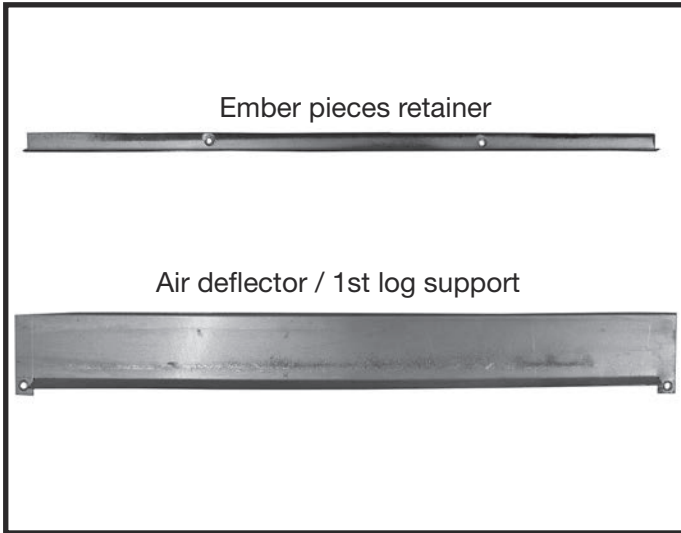
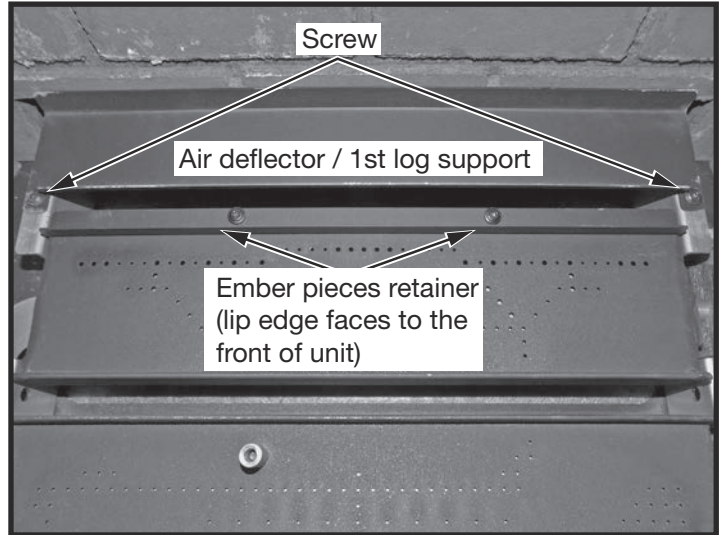

Figure 83: Ember pieces retainer and air deflector-1st log support.
Figure 84: Gap between air deflector and burner.
1. Begin by placing the air deflector / 1st log support (Figure 83) behind the rear burner and up against the rear wall (Figure 84). Position so that the lip faces toward the front of the fireplace. Fasten the deflector down with supplied screws. Once the deflector is secured, there should be a gap of approximately 1/2 inch between the deflector and the front burner. This gap is required for air flow. Also secure the Ember pieces Retainer (Figure 83) along the back of the rear burner. This will help to keep the ember pieces from spilling over from the burner and down into the air gap.
8. Place the 1st log on top of the air deflector / 1st log support tray (Figure 83) so that is up against the rear wall (Figure 95). The left hand side of the log should be tucked into the left rear corner of the firebox.